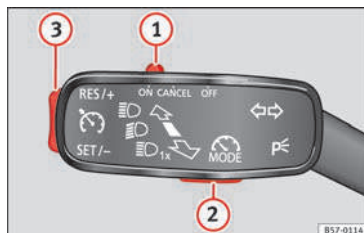

Fig. 155 On the left of the steering column: control and buttons to operate the speed limiter.
» Fig. 155 ① of the turn signal lever into position **CANCEL** or the third lever into pressure point **CANCEL** or press button ② on any lever.